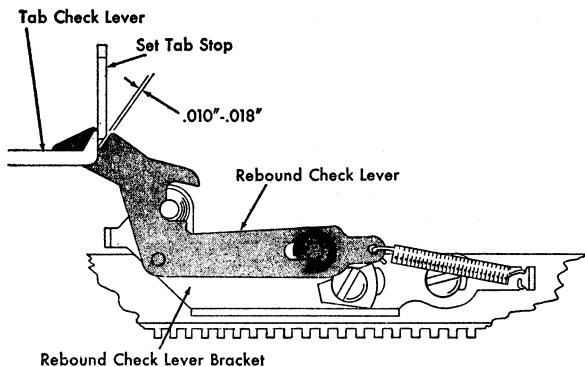

Figure 34. Tab Rebound Check Lever Adjustment
- a. The rebound check bracket is adjusted two ways: Position the bracket left or right so that the right edge of the V-slot of the rebound check lever clears the right-hand face of any set tab stop by $.010$ " to $.018$ " when the left-hand face of the stop has pushed the tab check lever to the extreme left (Figure 34). At the same time the bracket should be positioned front or rear so that, when the rebound check lever in its operated position and against the pin in its bracket, the leading edge of the rebound check lever is even with the tip of the tab check lever or is $.005$ " farther to the rear. The bracket can be conveniently adjusted for both conditions simultaneously. Set a tab